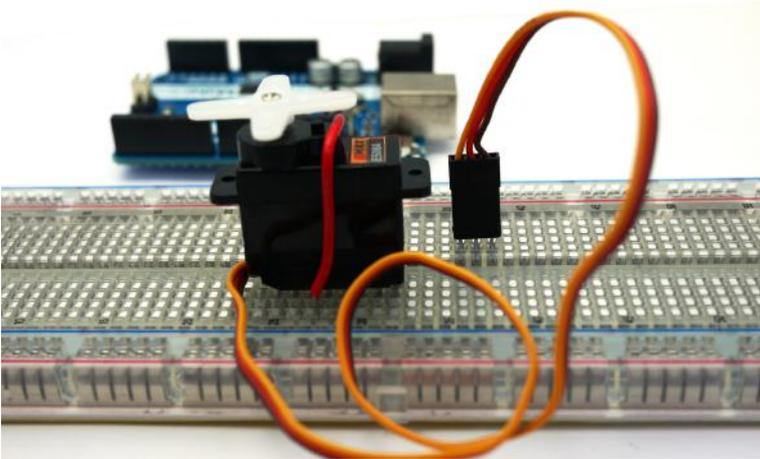

Figure 3-4. *Modified servo motor wire connector inserted into the full-size clear breadboard*
5. Insert the modified servo motor wire connector into the full-size clear breadboard, as shown in Figure 3-4.